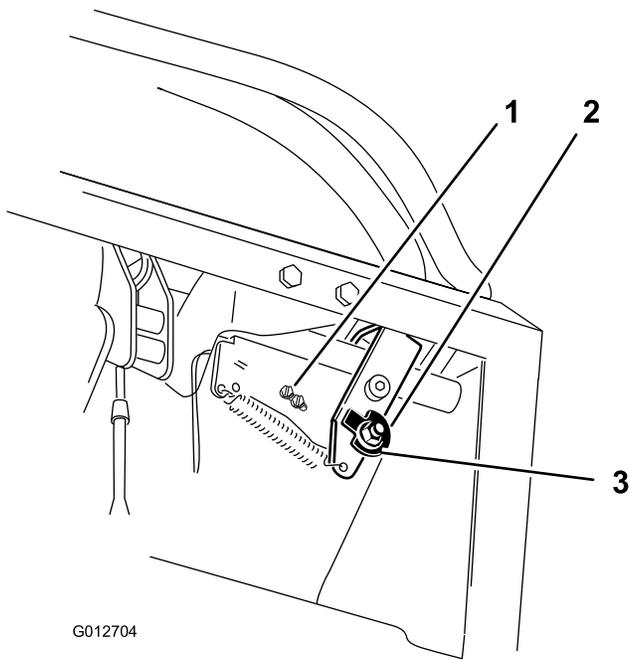
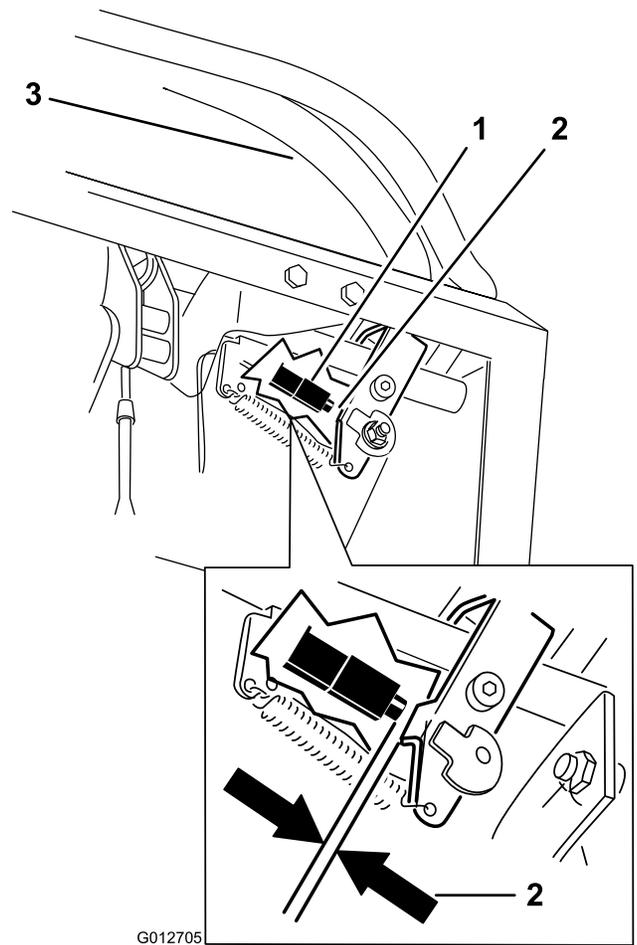

Figure 70
Figure 71
7. Loosen the nut holding the cam (Figure 70).
10. Check the gap between the control lever and switch as shown in Figure 71. The gap needs to be an 1/8 inch (3mm) with the right motion control lever in the neutral, unlocked position.
11. If needed, loosen the screws holding the switch and adjust the switch (Figure 70 and Figure 71).